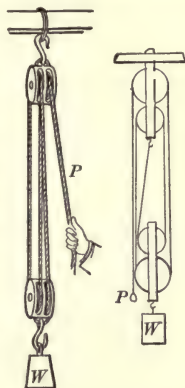

FIG. 26. — Double blocks.
29. Combinations of pulleys. In practical work it is quite common to use a fixed block with two sheaves and a movable block with two sheaves, as shown in figure 26. One end of the rope is attached to the fixed block, and the effort is applied to the other end of the rope. Let us compute the relation between the weight to be lifted and the effort applied. From figure 26 it will be seen that the weight and the movable block are supported by *four* ropes, and so the pull on each rope, neglecting the weight of the block, is *one fourth* the weight W . It will also be seen that the pull P is equal to that in each of the ropes, since a pulley only changes the direction of the pull. Therefore
Another example is the system of pulleys shown in figure 26 in section 29. The *output* is equal to the weight W times the distance it is lifted, and the *input* is equal to the effort P times the distance through which it is exerted. Suppose the distance the weight W is lifted is D ,